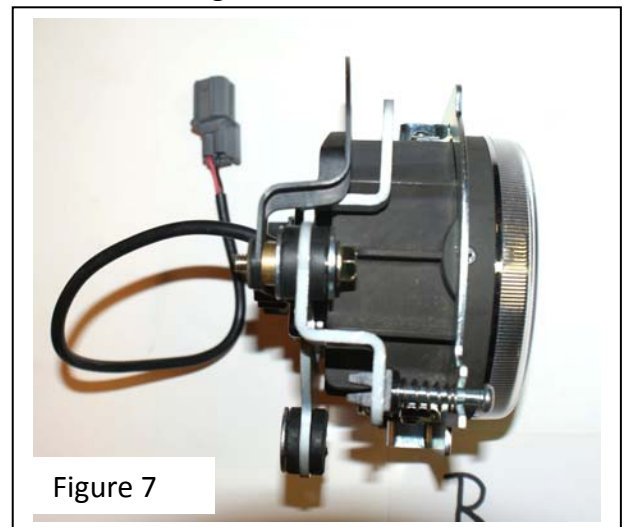

Figure 7
10. Using 8mm wrench, remove right side plastic trim piece, Figure 6. Install right fog lamp using three M6 x 35mm flange bolts, flat washers, 4mm spacers (for 2001 – 2005 models), and plastic trim piece, Figure 7. Plug the 2-pin gray connector into the motorcycle 2-pin gray connector. Located near horn. (The motorcycle 2-pin connector will be plugged and taped. Remove plug and tape.)